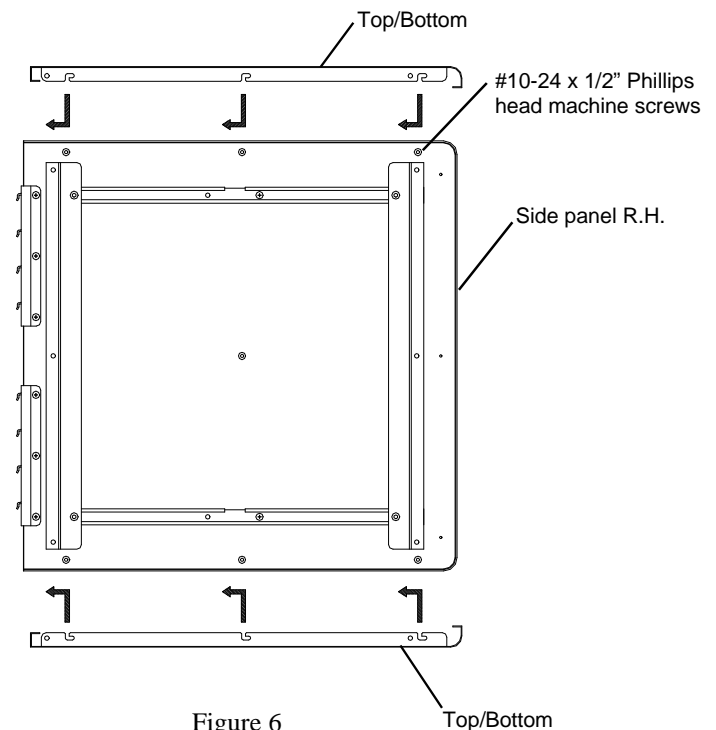

Figure 6
6. Install the Top onto the Side Panels by carefully positioning it over the three screws on each Side Panel. See **Figure 6**. Slide it back until the screws bottom out in the horizontal slots. See **Figure 6**. Tighten the screws securely.